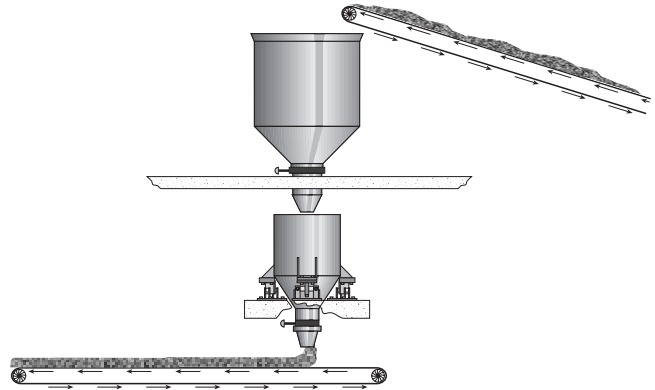

Figure 1-7
- C.** A conveyor-fed system can be improved by adding an upper surge hopper as shown in Figure 1-7. The surge hopper allows the conveyor to be run continuously and isolates the weigh hopper from the sometimes erratic flow of material from the conveyor.